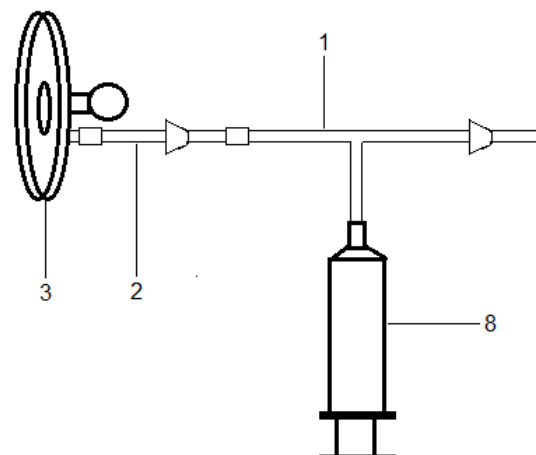

Fig. 1: 1 Hose with T-piece and valve, 2 Hose with valve, 3 Acrylic plate with flange for hose attachment, 8 Hand pump
- Connect the hose between the hand pump and the Magdeburg plate as shown in Fig. 1.